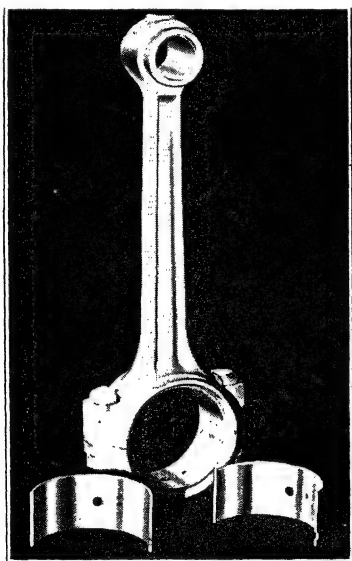

Fig. 2. 1937 Oldsmobile
**Oldsmobile Connecting Rods.** Fig. 2 illustrates the 1937 Oldsmobile connecting rods. The bearing shells lying in position near the big end of the rod are of thin-wall, steel backed, babbitt lined type. They are held in place in the big end of the rod by means
It will be noted in Fig. 2 that each of the thin bearing shells has